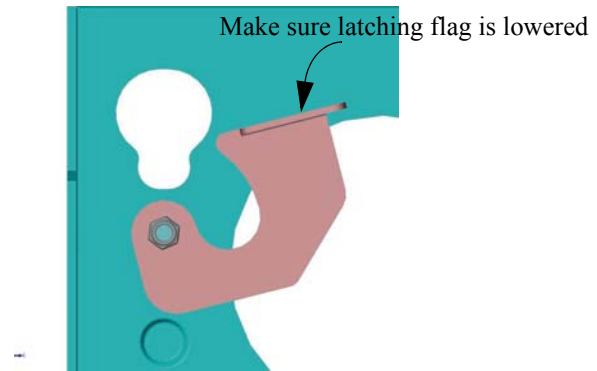

Figure 6. Lower Latching Flag
3. Before lifting the first flat panel display onto the mount, make sure the latching flag is lowered and will not interfere with mounting the plasma (see Figure 6).